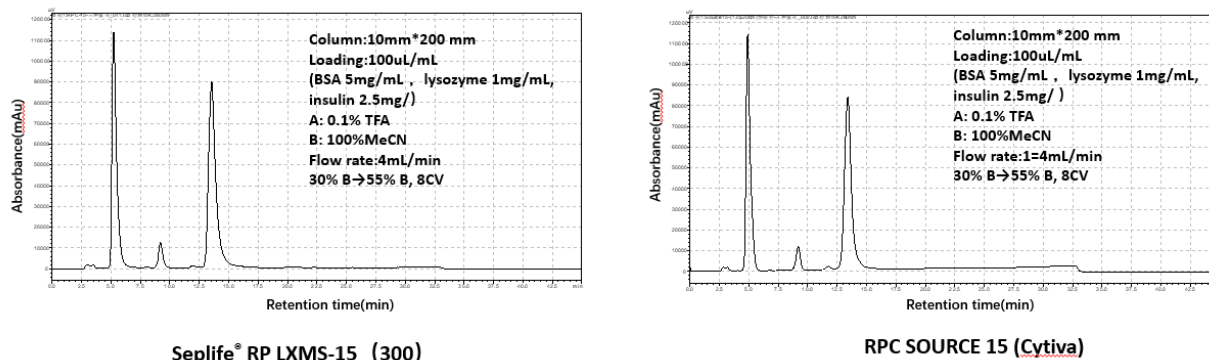

Figure 1. Elution curves of Seplife® RP LXMS-15(300) and Cytiva RPC SOURCE 15 for BSA, lysozyme, insulin
Seplife® RP LXMS-15(300) has similar chromatographic performance with RPC SOURCE 15. Figure 1 shows the elution curves of BSA, lysozyme, insulin using Seplife® RP LXMS-15(300) and Cytiva RPC SOURCE 15 using the same column packing and chromatographic conditions.